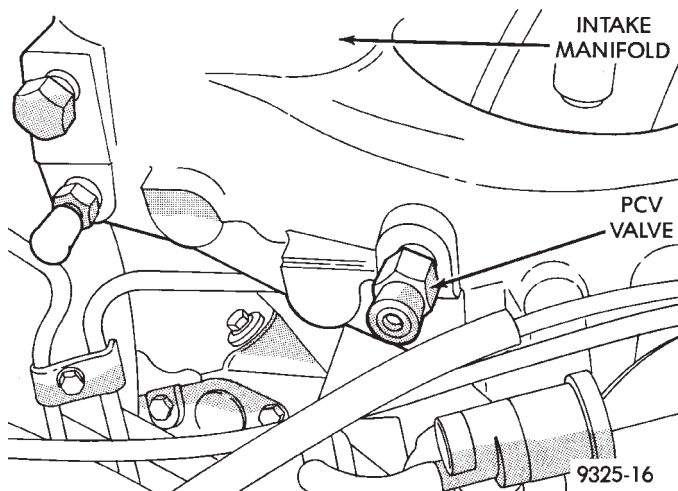
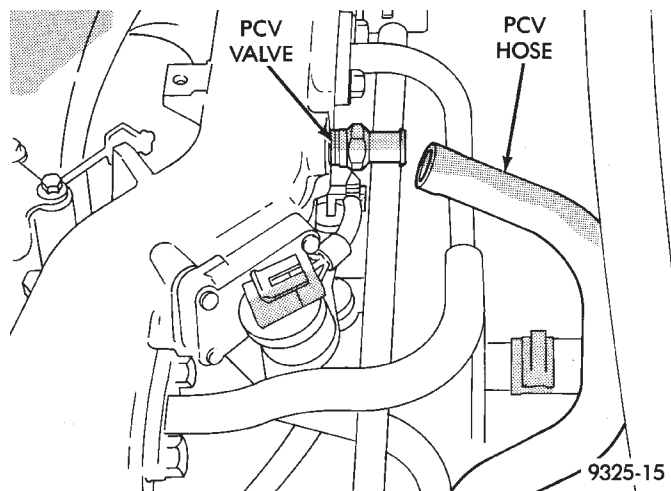

Fig. 14 PCV Valve—3.3L Engine
Fig. 15 PCV Valve—3.5L Engine
(1) With engine idling, remove the hose from the PCV valve. If the valve is not plugged, a hissing noise will be heard as air passes through the valve (Fig. 14 or Fig. 15). A strong vacuum should also be felt when a finger is placed over the valve inlet.